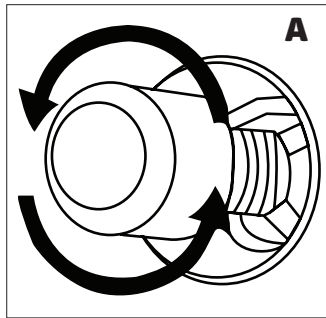
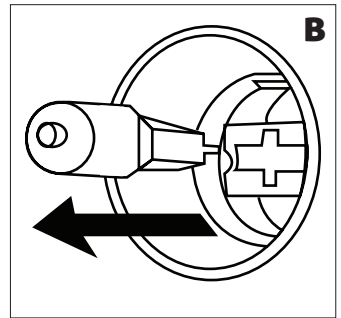

Figure 17
Figure 18
3. Then remove the oven lamp by turning it (See figure 17) if it is type **A**, or by pulling it (See figure 18) if it is type **B**.